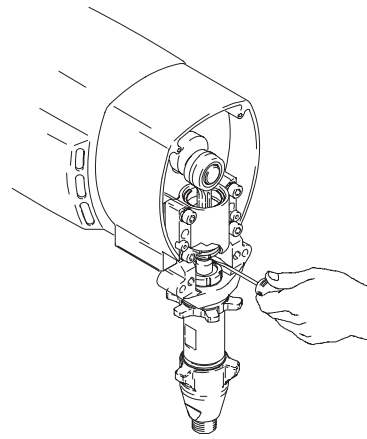

Fig. 25
3. Fig. 25. Push retaining spring into groove all the way around connecting rod.